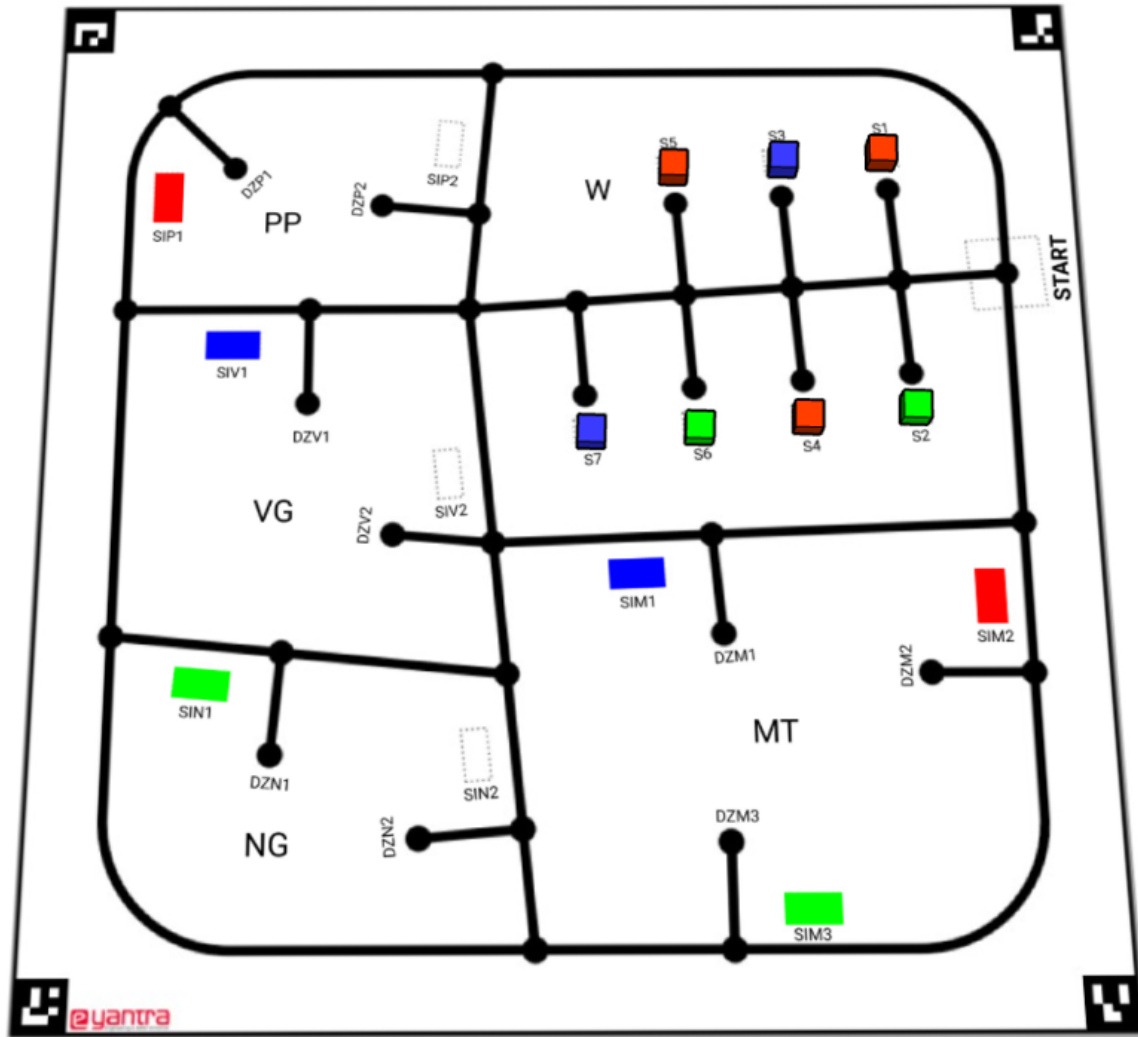

Figure 1: Arena and its components
The arena represents farmlands in an agricultural field. The arena and its components are as shown in figure 1.
With reference to Figure 1, we have defined the following:
Status Indicators (SI): These are the colored rectangles placed along the path close to a node in the different Farmlands. Color of Status Indicator (SI) indicates the issue/requirement for Soil in the Farmland as per Table 1. Soil Indicators associated with Paddy Plains (PP) (top left of the arena in figure 1) are identified as SIP1 and SIP2 as shown. Similarly, other Soil Indicators are identified as *SIV1, SIV2 for Vegetable Garden (VG)*; *SIN1, SIN2 for Nutty Ground(NG)* and *SIM1, SIM2 and SIM3 for Maize Terrains (MT)*.